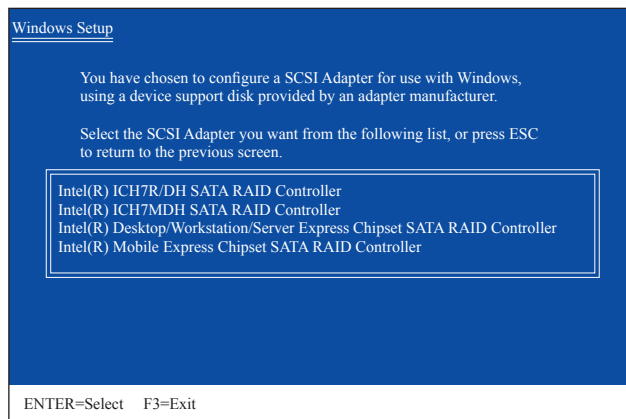

Figure 3
Insert the floppy disk containing the SATA RAID/AHCI driver and press <Enter>. Then a controller menu similar to that in Figure 3 will appear. Select **Intel(R) Desktop/Workstation/Server Express Chipset SATA RAID Controller** and press <Enter>. For AHCI mode, use the up arrow key on the keyboard to scroll to the **Intel(R) 7 series/ C216 Chipset family SATA AHCI controller** item and press <Enter>.